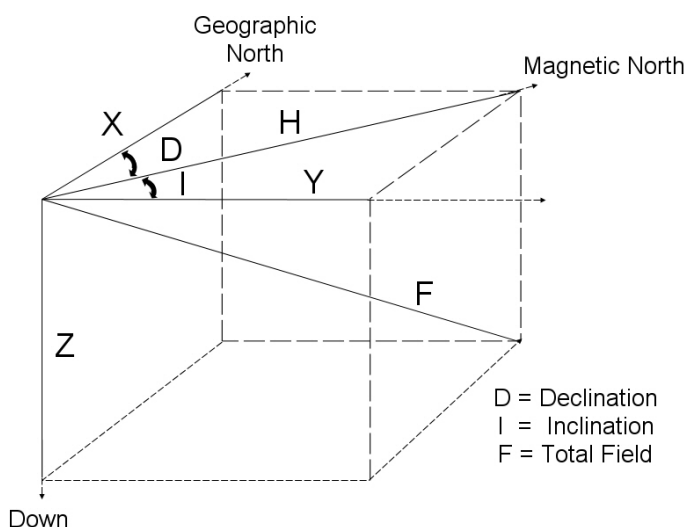

Figure 1.1
The earth's magnetic field (a vector field having both amplitude and direction) is described by an intensity (total field intensity, T), an inclination (I) and a declination (D), Figure 1.1. For Specific applications, horizontal and vertical field components can be derived from T, D, and I